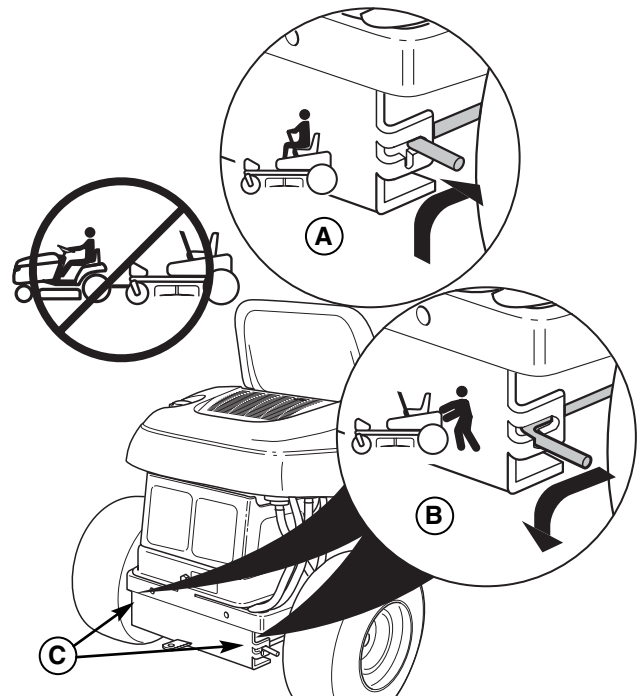

Figure 3. Transmission Release Levers
2. Locate the transmission release levers (C, Figure 3) at the rear of the unit.
3. Pull **both** levers back and down to release the transmissions (position B, Figure 3).
5. After moving the rider, set the ground speed control levers to START/PARK, engage the parking brake, and push **both** transmission release levers forward to re-engage the transmissions (position A, Figure 3).